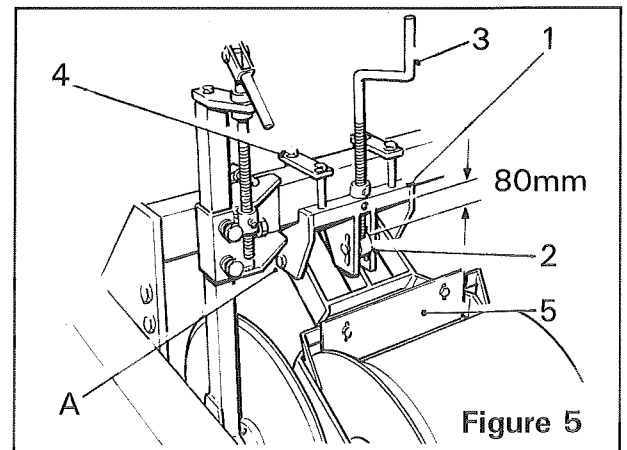

Figure 5
The diablo roller is mounted in a frame (item 1, figure 5) which is free to pivot about point A. When the 1st stage is lowered and the diablo roller comes into contact with the bed, the roller is able pivot upward until the stop boss (item 2, figure 5) comes into contact with the depth screw (item 3, figure 5). The depth screw setting therefore determines the depth at which the machine will dig.
1. Set the depth screw (item 3, figure 5) so that it protrudes 80mm through the pivot frame (item 1, figure 5) as shown. This setting will give a digging depth of approximately 30cm (12"). Adjust both rollers equally.
3. Lower the 1st stage until the stop boss (item 2, figure 5) contacts the depth screw (item 3, figure 5).
The large flanges on the outer edge of the diablo rollers assist in holding the bed together when digging. To adjust the diablo rollers for different width beds, loosen the retaining bolts (*item 4, figure 5*) and slide the complete units to the required position and retighten. Ensure the adjustment is made equally about the centre-line of the machine.
The diablo rollers are each fitted with a scraper (*item 5, figure 5*). The scrapers must be kept as close as possible to the roller to enable their efficient operation.